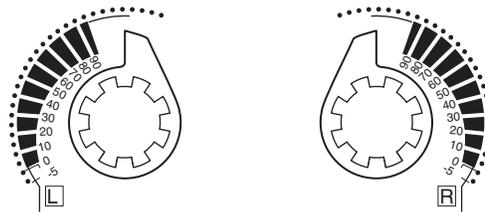

Figure-7 Installing the Position Indicator.
- Place the position indicator onto the actuator spline in the approximate position shown in Figure-7. Fasten it with the retaining clip.